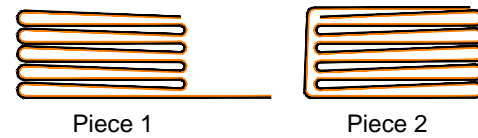

FIGURE 2
1. ONCE FIRST AND SECOND PANEL ARE UNROLLED, FLIP THE TOP FOLD OF PIECE1 TOWARDS PIECE 2, (FIGURE 2)